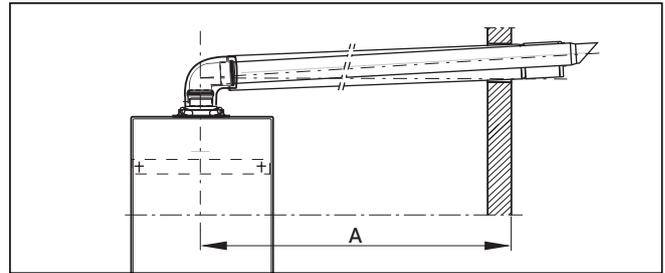

Fig. 2.8 Distance to external wall
- Measure the distance from the outside face of the wall to the centre of the fan outlet on the boiler (fig. 2.8). This is dimension A.
- For installations where the measured distance dimension A (fig. 2.8) is greater than 960 mm, an air/flue extension accessory will be required. The number of air/flue duct extensions which can be used depends on the boiler.